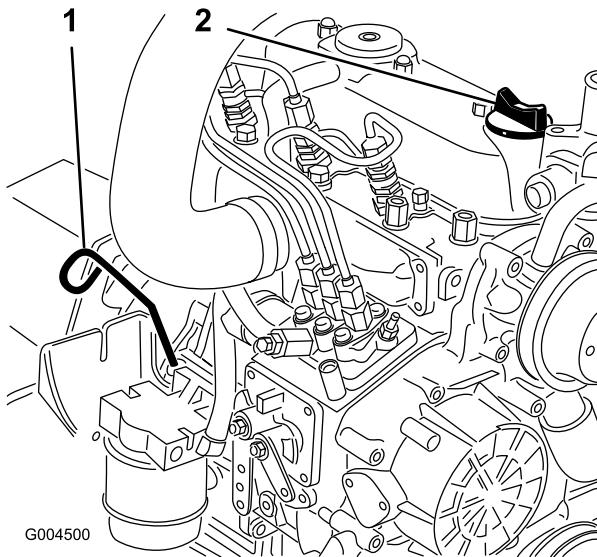

Figure 42
- Remove the dipstick (Figure 42), wipe it clean, and install the dipstick. Remove the dipstick and check the oil level.
- If the oil level is below the Full mark, remove the fill cap (Figure 42) and add oil until the level reaches the Full mark on the dipstick.